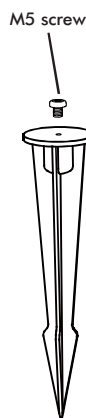

Fig 2.2
2.2 Remove the M5 screw from spike (See Fig 2.2)